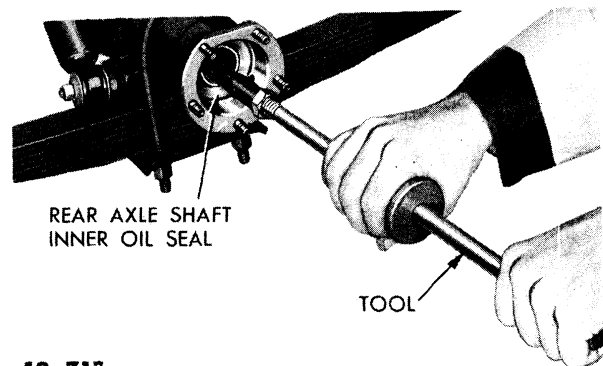

Fig. 9—Removing Axle Shaft Inner Oil Seal
- (8) Remove the axle shaft inner oil seal from housing, using Tool C-637, as shown in Figure 9.
- (9) Remove outer oil seal from support plate by driving the seal out of plate with driver, Tool C-839.